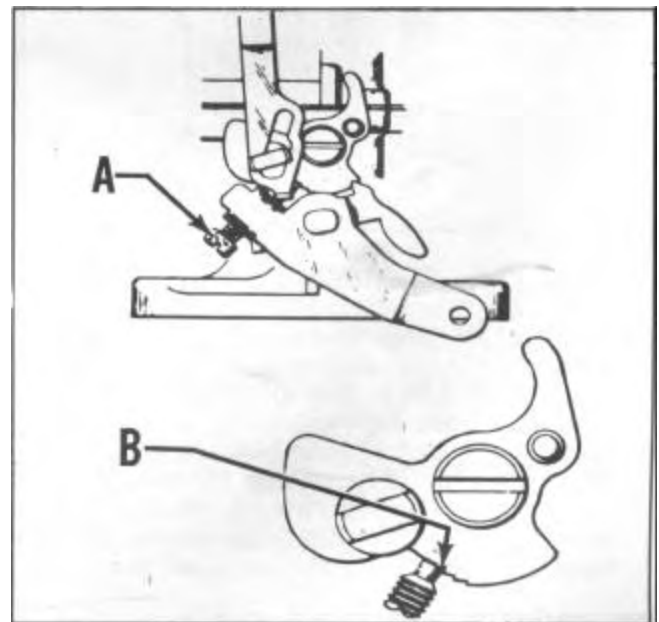

FIGURE 36
1. With fast idle cam in normal idle position, tighten throttle lever adjusting screw, Figure 36, until it just seats against the cam.